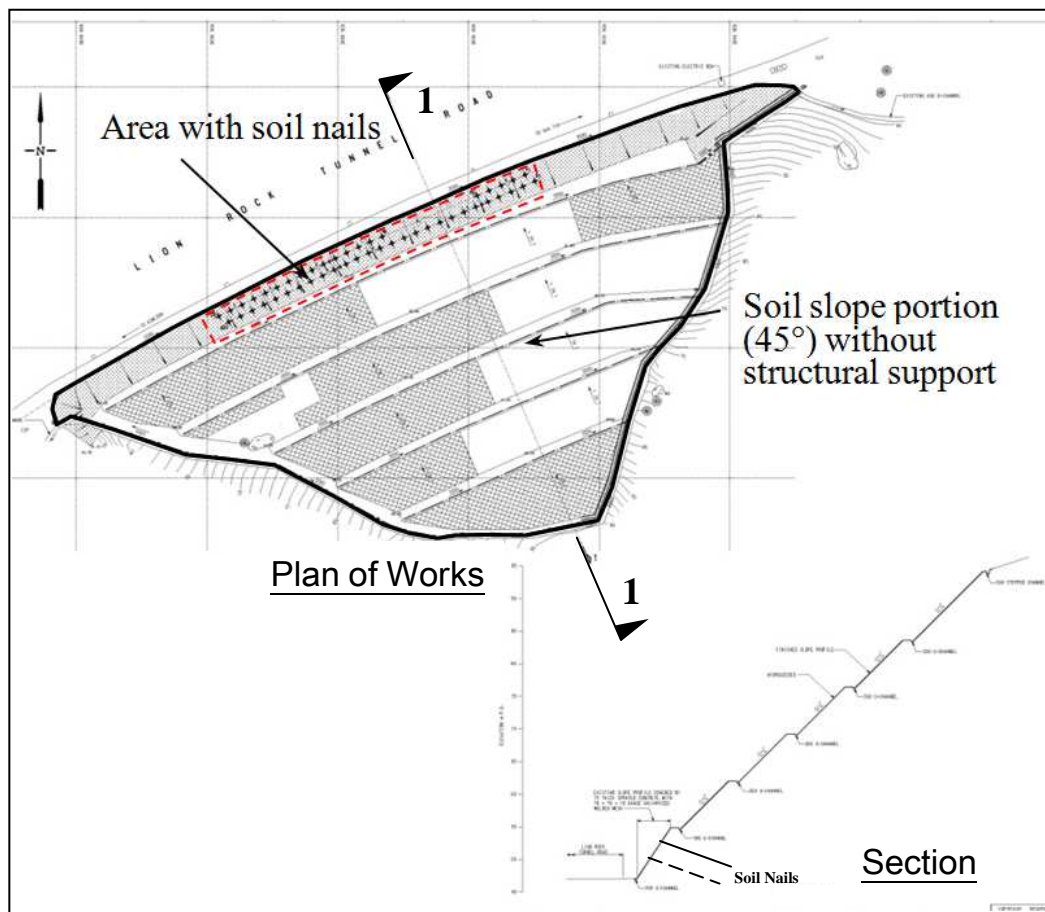

Figure 3 – Soil Cut Feature with Limited Coverage of Soil Nails
- A soil cut is deemed to be 'treated with robust measures' in the assessment of Factor A1 if a substantial portion of the slope has been stabilized using robust measures. Soil cut with limited coverage of soil nails is not considered to be treated with robust technology in the assessment of Factor A1. See example in Figure 3 below. Please also refer to Question 12 for details of how the geometric parameters of soil cut slopes partially treated with soil nails can be assessed.